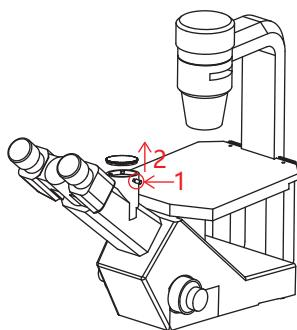

图1
1) Loosen the screws on the microscope eyepiece tube, remove the cover plate as shown in Figure 1;